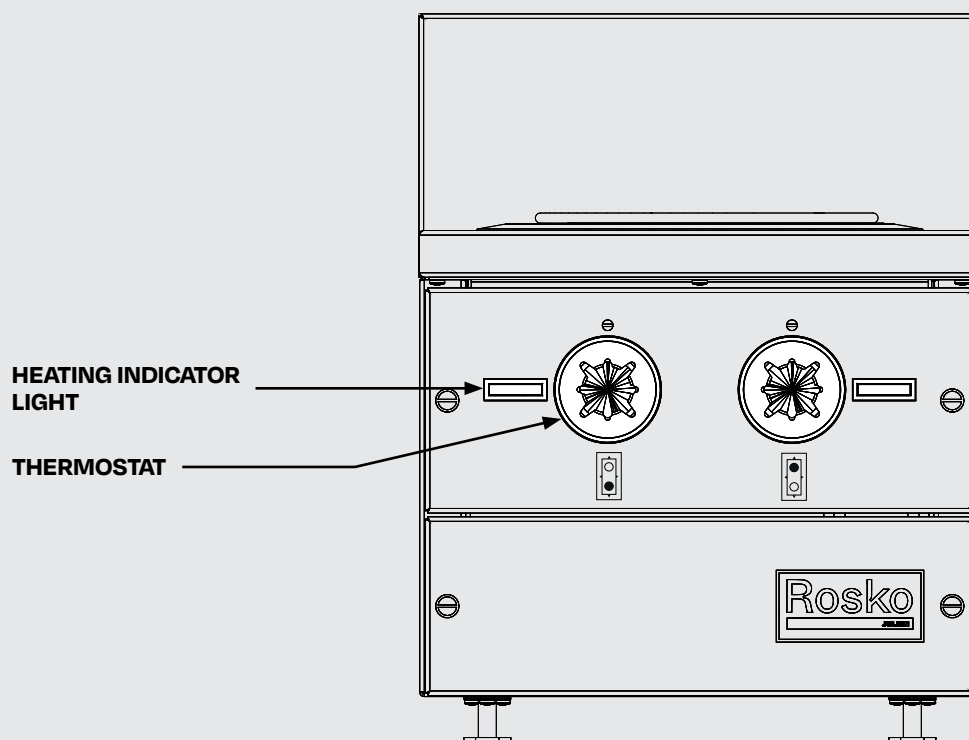

Figure 5
3. Adjust the infinity controls to the desired position. A red light will turn on for each element that is heating. **(Figure 5)**